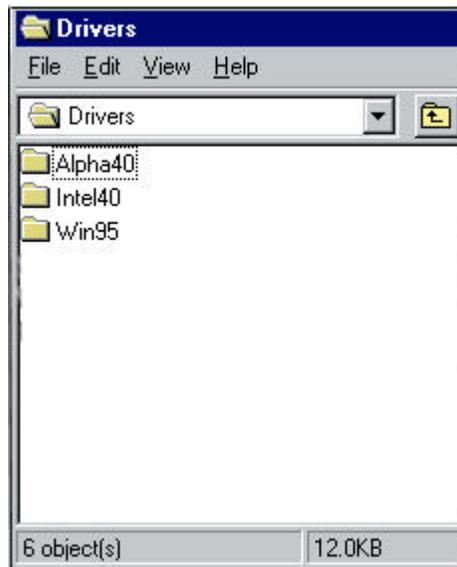

Figure 2: Drivers Folder
4. Double-click on the *DRIVERS* folder. This will display the operating systems and platforms that the drivers support (Figure 2).